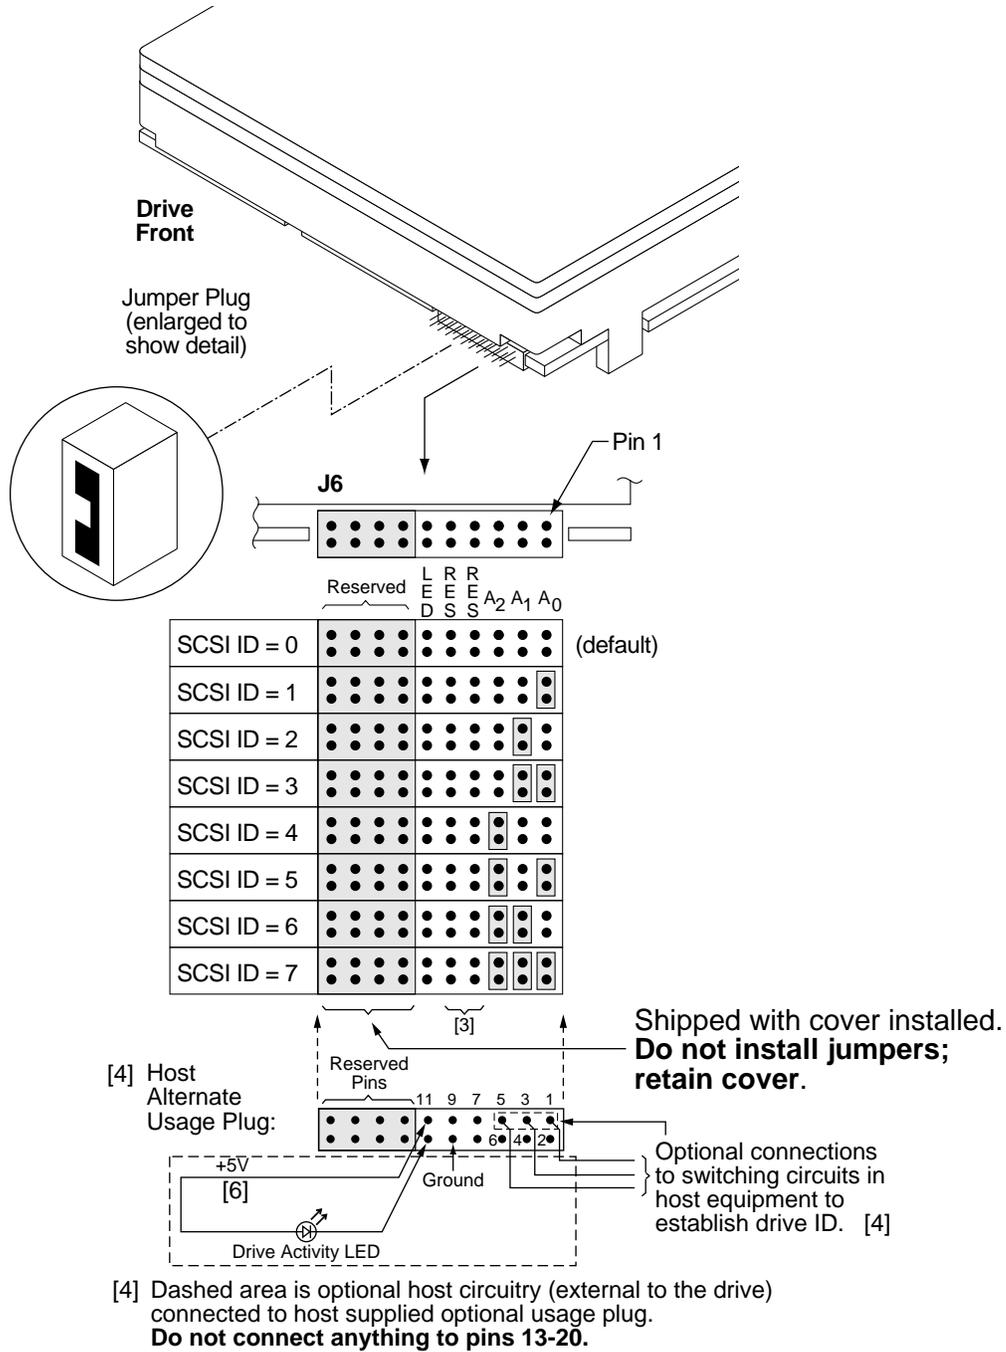
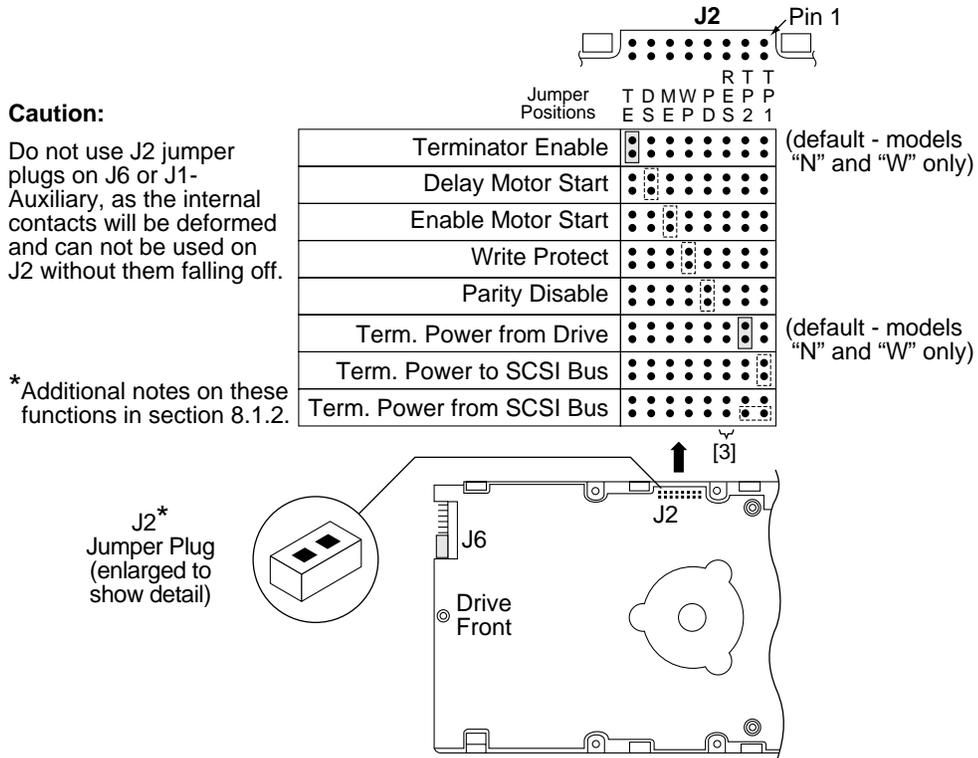

Figure 7a. Barracuda 4LP family drive ID select header for models “N”
Figure 7d. Barracuda 4LP family drive option select header for models "N," "W," and "WD"
For option jumper locations and definitions refer to Figures 7a, 7b, 7c, 7d, and 7e. Drive default mode parameters are not normally needed for installation. Refer to Section 9.3.2 for default mode parameters if they are needed.
Figures 7a through 7c show views of the drive ID select jumper connectors. Figure 7d shows the option select jumper connector for all models. Figure 7b shows a rear view of model drives for the purpose of showing J1-auxiliary of the drive. Both J1-auxiliary and J6 have pins for selecting drive ID and for connecting the remote LED cable. Only one or the other should be used, although using both at the same time would not damage the drive. The notes following the figures describe the functions of the various jumper positions on the connectors J2, J1-Auxiliary and J6. Suggested part number for the jumpers used on J1-Auxiliary and J6 are Methos Electronics 861M-202-70 (Seagate P/N 15481851). Suggested part number for the jumpers used on J2 is Molex 52747-0211 (Seagate P/N 77679052). A bag with the two jumper plug types is shipped with the standard OEM drives.
Notes for Figures 7a through 7e are in Section 8.1.1.
8.1.1 Notes for Figures 7a, 7b, 7c, 7d, and 7e.
*See Figure 7d for pins used for Termpower.